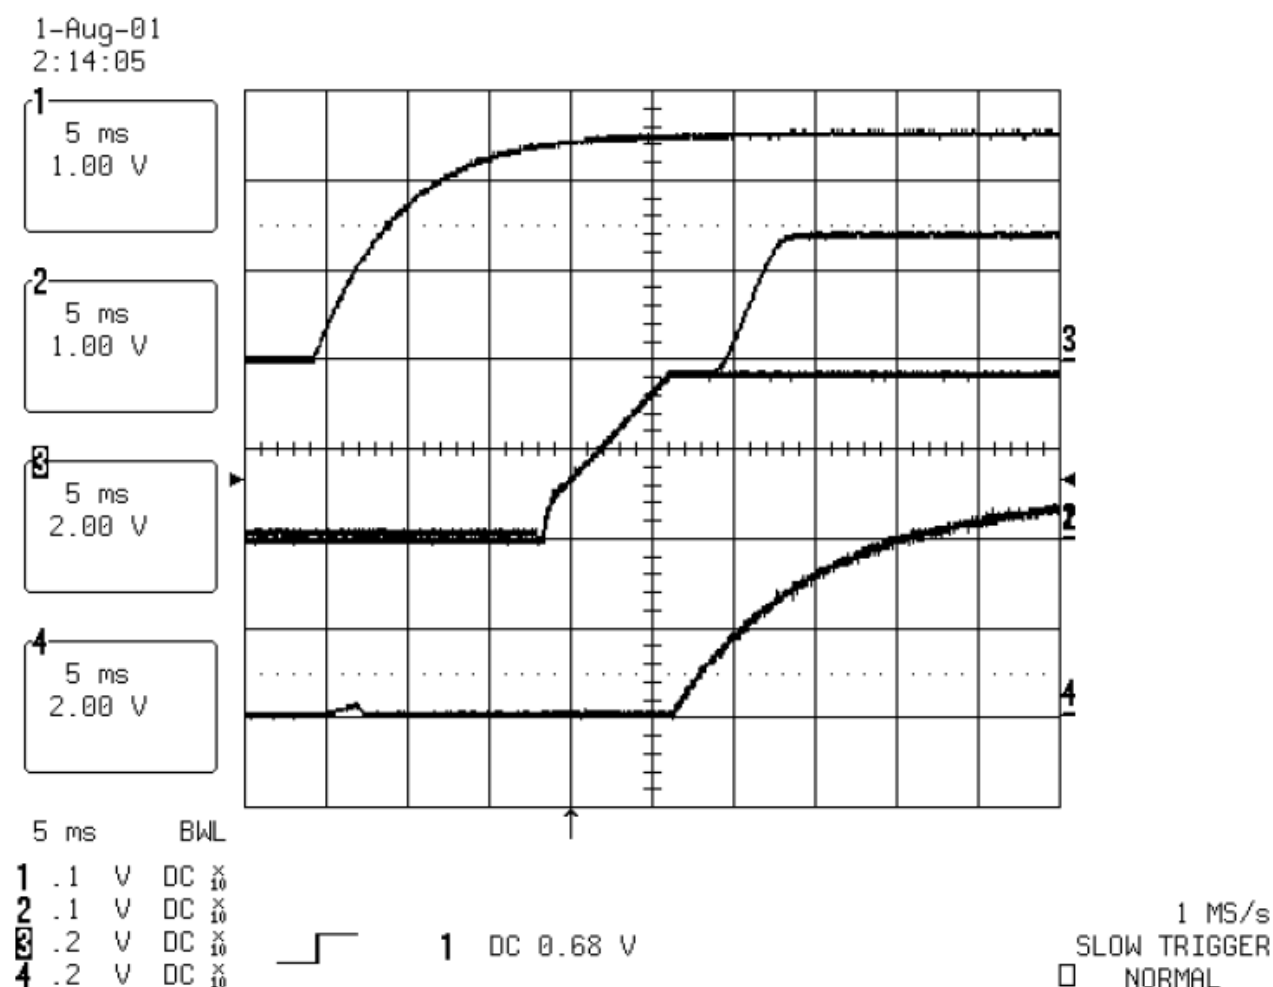

Figure 2. Output Voltage Waveform for Sequential Start-up:
Sequential sequencing connects the power good (PG) pin of one voltage regulator to the enable (EN) pin of another voltage regulator. Figure 2 shows the power-up configuration for two converters, and you can add more rails onto the series, which enables you to stagger the voltage rails and avoid high in-rush currents during start-up.